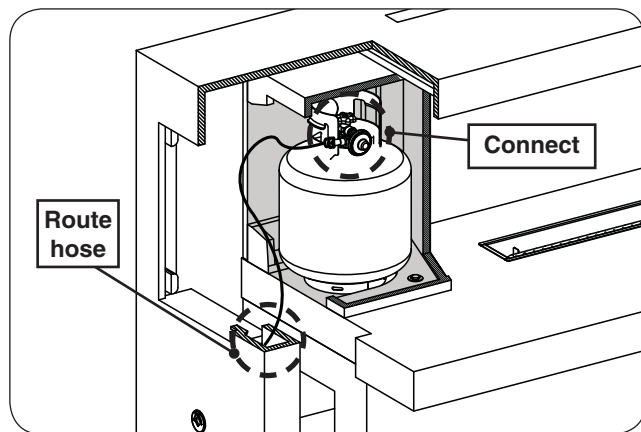

Fig. 17-3 L.P. Cylinder placement
3. The propane cylinder (not included) is to be located inside the firebox of the unit (see Fig. 17-3). The access door must be removed to place the cylinder. (Replace once done.)